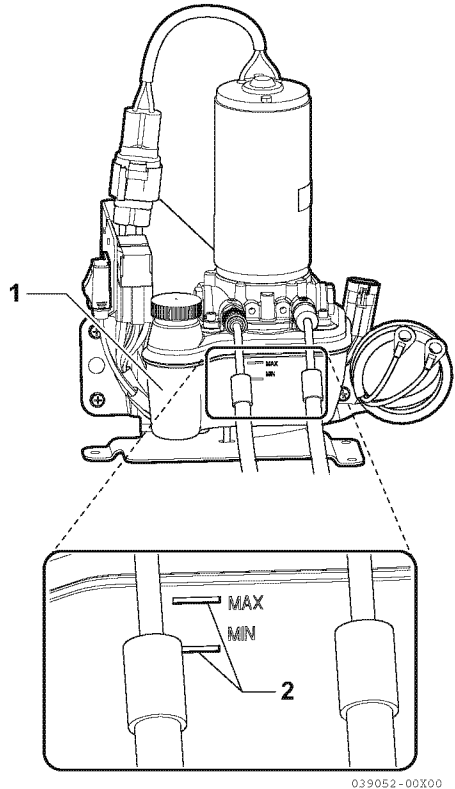

Figure 4
- Observe the oil level in the reservoir. The oil level should be maintained within the MIN and MAX lines (2, Figure 4) on the reservoir (1, Figure 4).